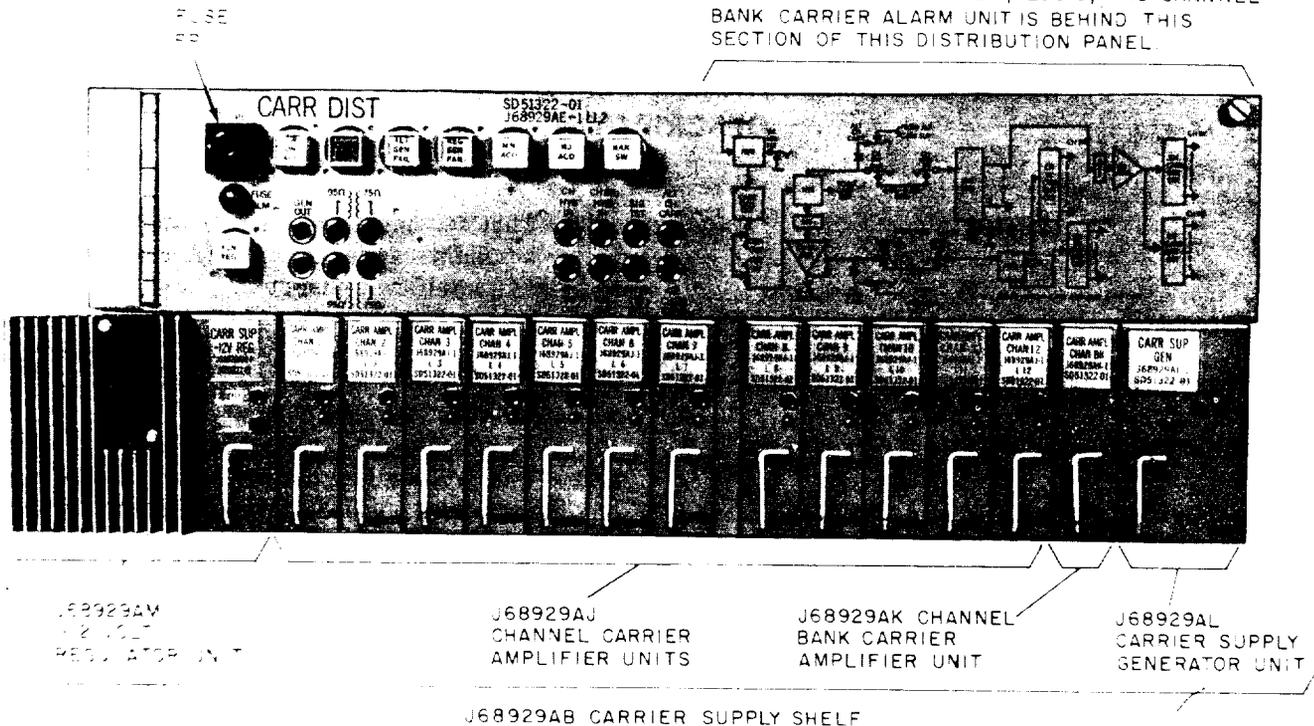

Fig. 1—A6 Carrier Supply and Distribution Panel—First Bay
1.01 The A6 carrier supply and distribution panel (Fig. 1) generate and distribute, at the proper level, the 12 individual channel carrier frequencies and the one channel bank carrier frequency required for operation of the J68929AA (A6) channel bank. ♦The significant characteristics of the A6 regular carrier supply are listed in Table A; the A6 auxiliary carrier supply in Table B.♦
2.01 The A6 regular carrier supply equipment comprises one J68929AB carrier supply shelf and two J68929AE carrier distribution panels mounted in two A6 channel bank bays, designated the first and second bays. Two of these units, the J68929AB carrier supply shelf and the J68929AE (L1 and L2) carrier distribution panel, are mounted in the first bay as shown in Fig. 1; the J68929AE (L1 and L3) carrier distribution panel is mounted in the second bay.
2.07 The J68929AE (L1 and L2) carrier distribution panel (in the first bay) has various switches and lamps mounted on the front panel for manually controlling and indicating the condition of the carrier supply. It also has jacks for testing and manual patching of the carrier supply generator. This arrangement is shown in Fig. 1. The J68929AE (L1 and L3) unit (in the second bay) has a blank front panel. It is equipped only with a resistor-type network for distribution of the 12 channel carriers and one channel bank carrier to the channel banks in the second bay.